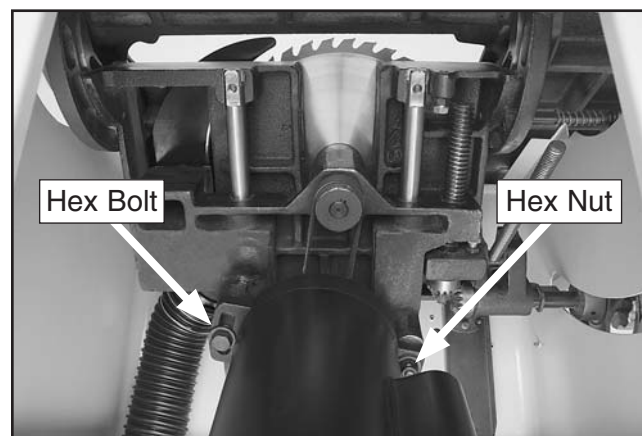

Figure 93. Motor mounting fasteners.
2. Loosen the hex bolt and hex nut shown in **Figure 93**, and pivot the motor up and down to make sure that it is movable.
2. Remove the motor mount hex bolt and loosen, but do not remove, the motor mount hex nut shown in **Figure 93**.